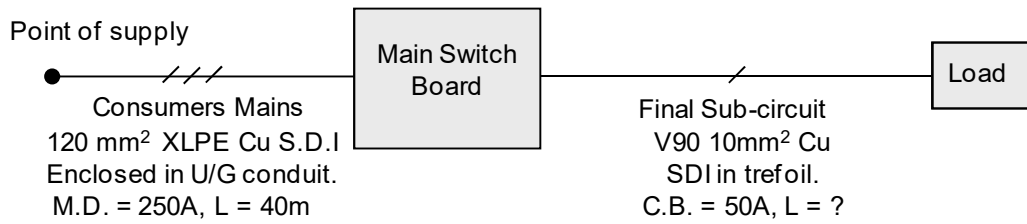

figure 5.
14. For the installation of figure 5 determine;